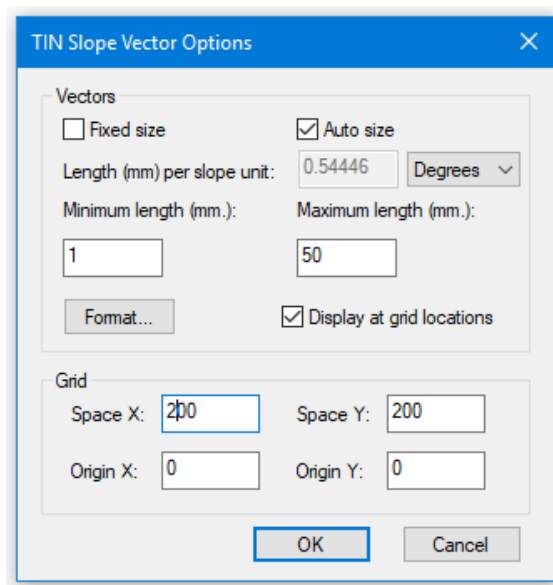

Figure 7-29: TIN Slope Vector Options Dialogue
- o Type in a *Spacing* for both *X* and *Y* of **200** as shown in Figure 7-29 below.